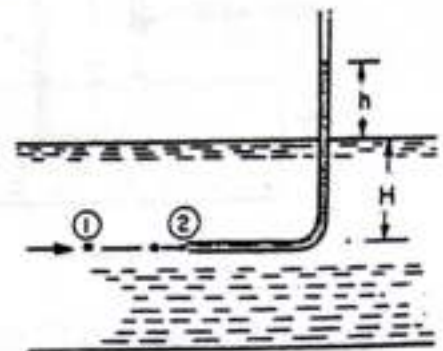

Fig. 6.13. Pitot-tube.
**6.7.3. Pitot-tube.** It is a device used for measuring the velocity of flow at any point in a pipe or a channel. It is based on the principle that if the velocity of flow at a point becomes zero, the pressure there is increased due to the conversion of the kinetic energy into pressure energy. In its simplest form, the pitot-tube consists of a glass tube, bent at right angles as shown in Fig. 6.13.
The lower end, which is bent through  $90^\circ$  is directed in the upstream direction as shown in Fig. 6.13. The liquid rises up in the tube due to the conversion of kinetic energy into pressure energy. The velocity is determined by measuring the rise of liquid in the tube.